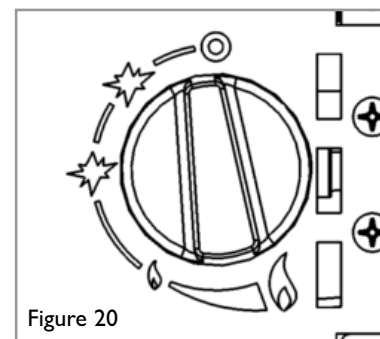

Figure 20
The control knob is supplied in the loose parts pack. Fit the control knob onto the valve spindle as shown in figure 20. The pilot is visible behind the left hand side of the burner. Push the control knob in fully and turn anti-clockwise through both of the SPARK positions, keeping fully depressed, hold there for a few seconds. If the fire has not been used for some time, hold the knob in this position for longer, to allow any air in the pipes to be purged.
6. Disconnect the gas supply and remove the four screws retaining the burner (two in the burner legs and two in the rear of the firebox - see figure 20).